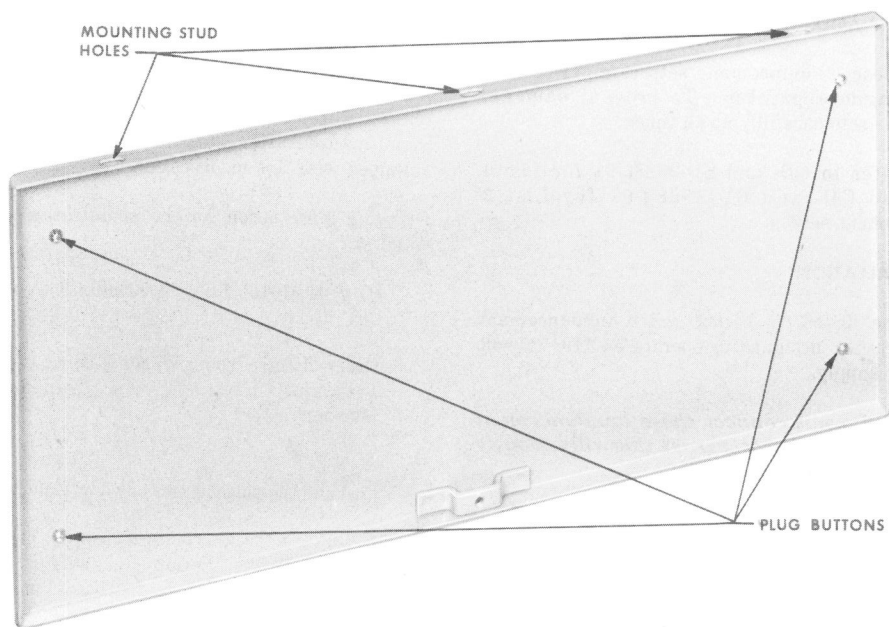
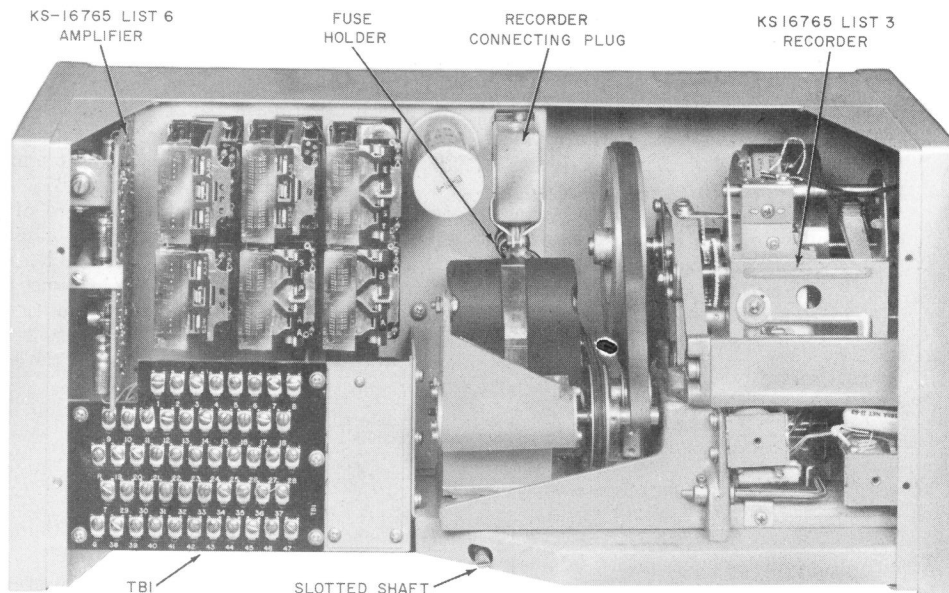
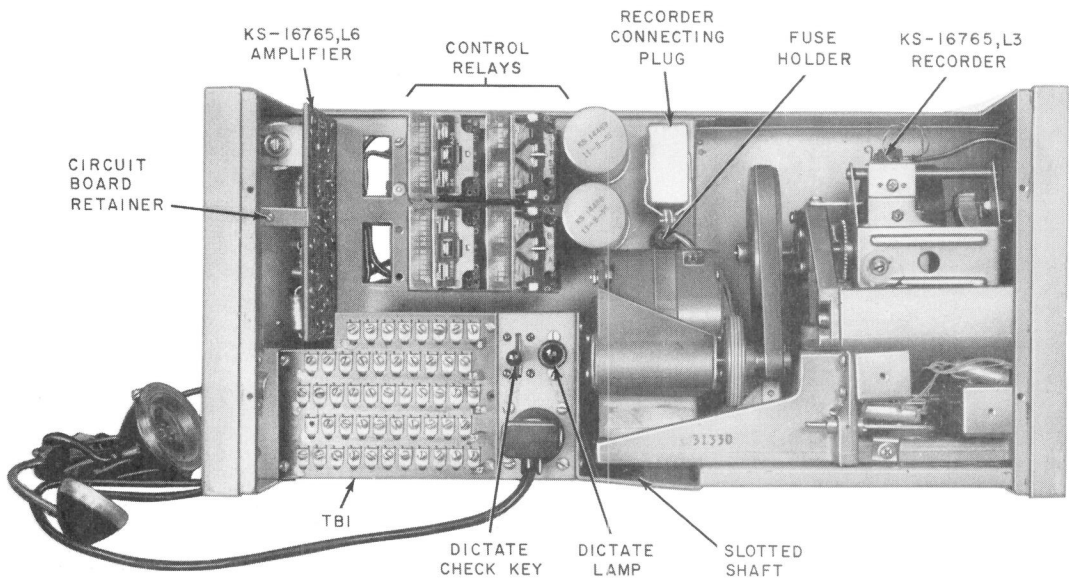

Fig. 2—KS-16765, Lists 1 and 2, Rear Cover
Fig. 3—KS-16765, List 1 Announcement Set, Front Cover Removed
Fig. 5—KS-16765, List 2 Announcement Set, Front Cover Removed
2.11 Refer to the appropriate sections to install the telephone set, cable, drop wire, connecting block, and inside wiring used with a List 1 set (Fig. 3 and 4) and to install the inside wiring used with a List 2 set (Fig. 5 and 6).
- (3) Remove the four plug buttons from announcement set rear cover (Fig. 2).
- (4) Mount rear cover to wall surface using four No. 14 screws or equivalent.
- (5) Hold set with top tipped slightly back. Insert the three mounting studs (Fig. 3 and 4) located on the underside of the top of the set into the three mounting stud holes in the top edge of the rear cover.